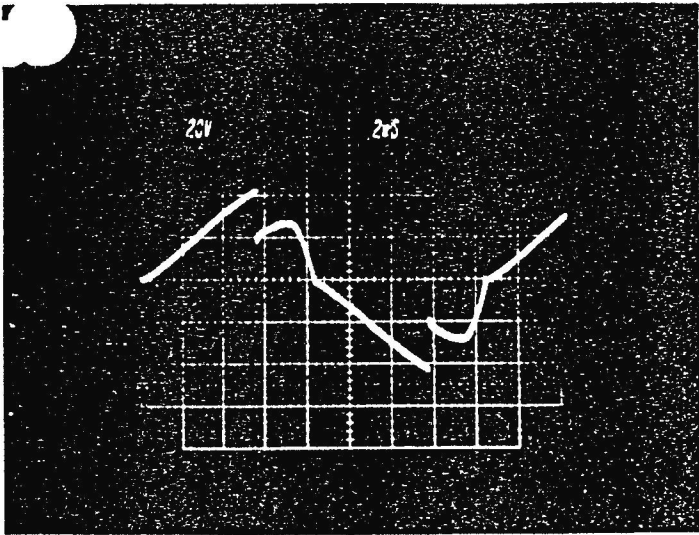
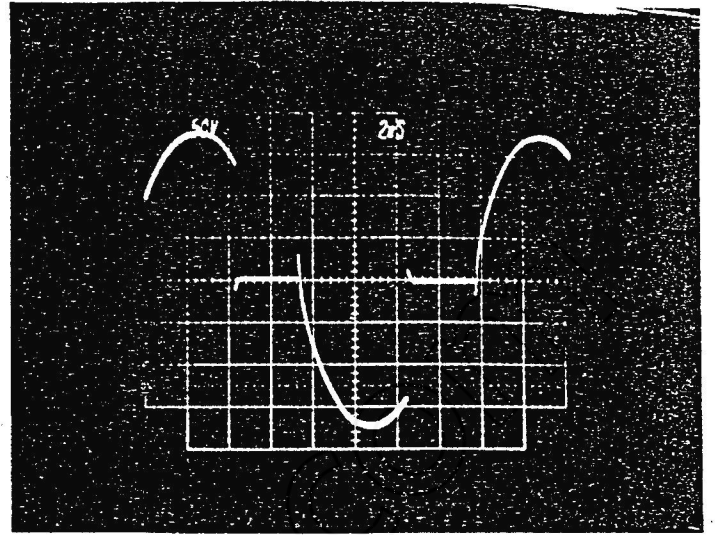
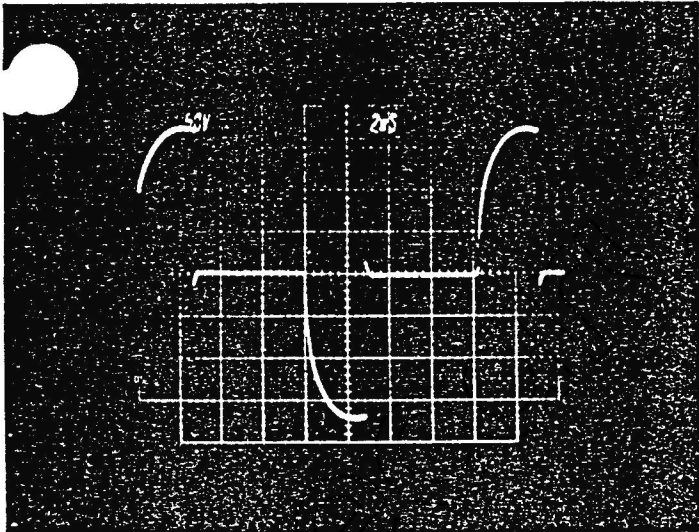
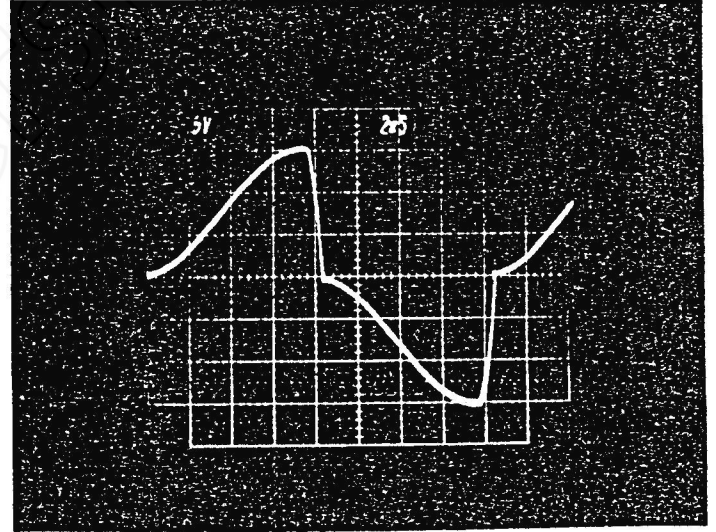

FIG. 1
FIG 2
FIG 3
FIG 4
DESCRIPTION OF FIGURES 1 THROUGH 8
- Fig. 1 Diac triggering at idle
- Fig. 2 Voltage across triac at idle
- Fig. 3 Voltage across triac at full power into 8 ohms
- Fig. 4 Voltage across C 86 when amp is into shutdown
When the voltage on C₈₆ reaches 40 volts, diac DC₁ will trigger (see fig. 1) and fire triac TR₁, which will remain on until zero crossing and then turn off. TR₁ will remain off until DC₁ is again triggered (see fig. 2).
If sufficient current flows through OC₁ to trigger diac DC₁ before or at 90° (see fig. 3), then maximum power will be delivered to the primary of (T-2). If the current through OC₁ is insufficient to charge C₈₆ to 40 volts before zero crossing, then no power will be delivered to the primary of (T-2) (see fig. 4). The normal operating range of TR₁ is demonstrated by figures 2 and 3 which indicate the minimum and maximum firing angles.